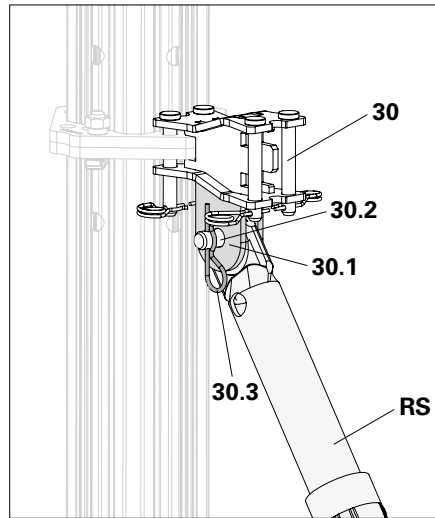

Fig. A8.01
- Connect Push-Pull Prop (RS) and connection lugs (**30.1**) with bolts (**30.2**) and cotter pins (**30.3**). (Fig. A8.01)